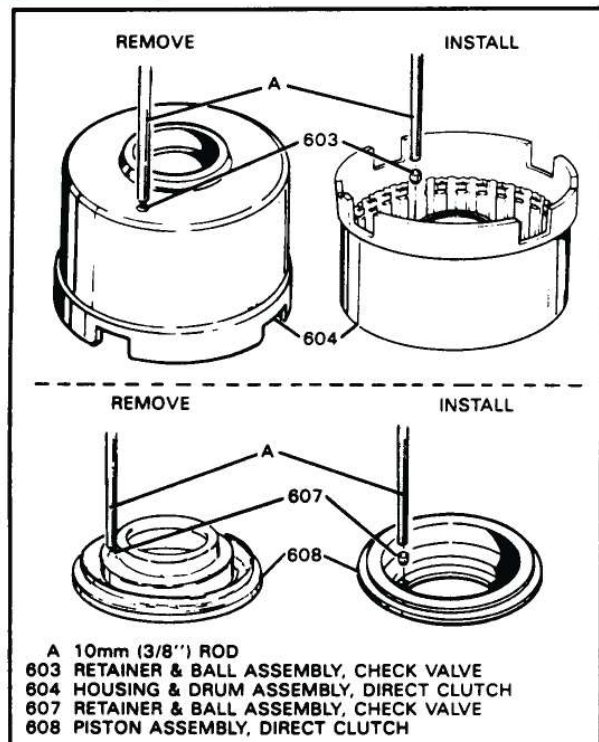

Figure 84
2. If replacing the ball capsules is necessary, refer to Figure 84.